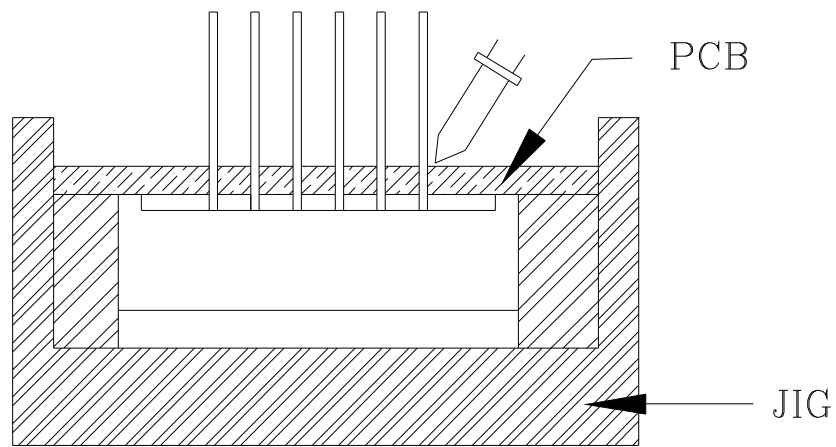

Fig.1
1) When soldering the PIN of Display in a jig that the package is fixed with a panel (See fig.1), be careful not to stress the PIN with iron tip. When soldering Display in a condition that the package is fixed with a panel, be careful not to clind and stress the surface of Displav on the panel to avoid damaging the Display.